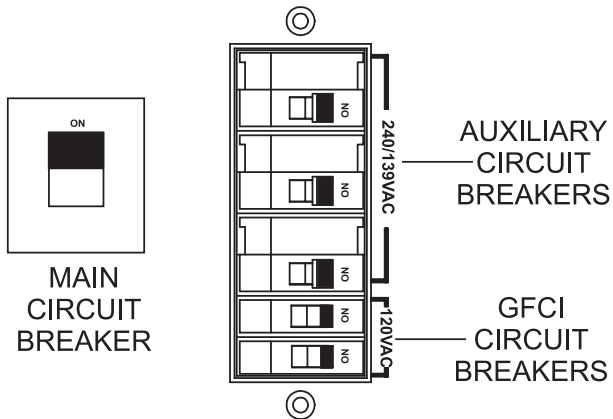

Figure 54. Main, Auxiliary, And GFCI Circuit Breakers (ON)
10. Place the **main, auxiliary, and GFCI** circuit breakers in the **ON** position (Figure 54).